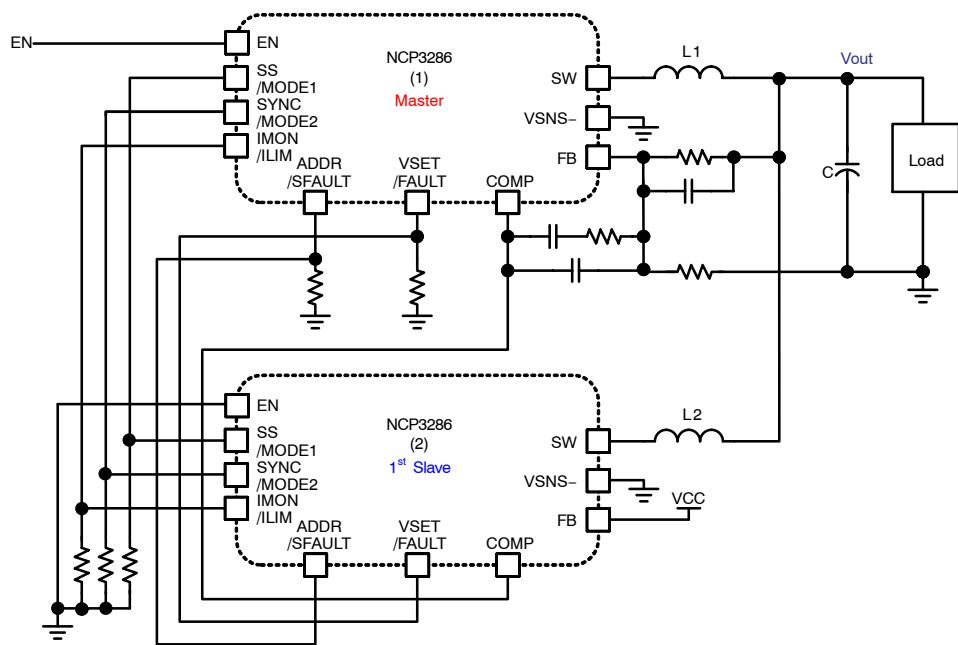

**Figure 1. Typical 12 VIN, 40 A Application Circuit for Single Input Supply (LDO Enabled)**
**ELECTRICAL CHARACTERISTICS** ( $V_{IN} = PVIN = 12\text{ V}$ ,  $V_{OUT} = 1.0\text{ V}$ ,  $F_{SW} = 500\text{ kHz}$ , circuit of Figure 1.